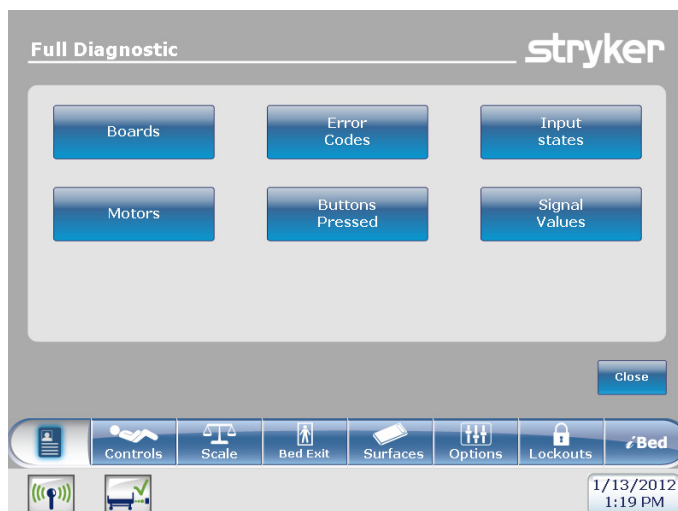

Figure 26: Full Diagnostic Screen
- From the Configuration Screen, press the Full Diagnostic button. Figure 26 will appear.